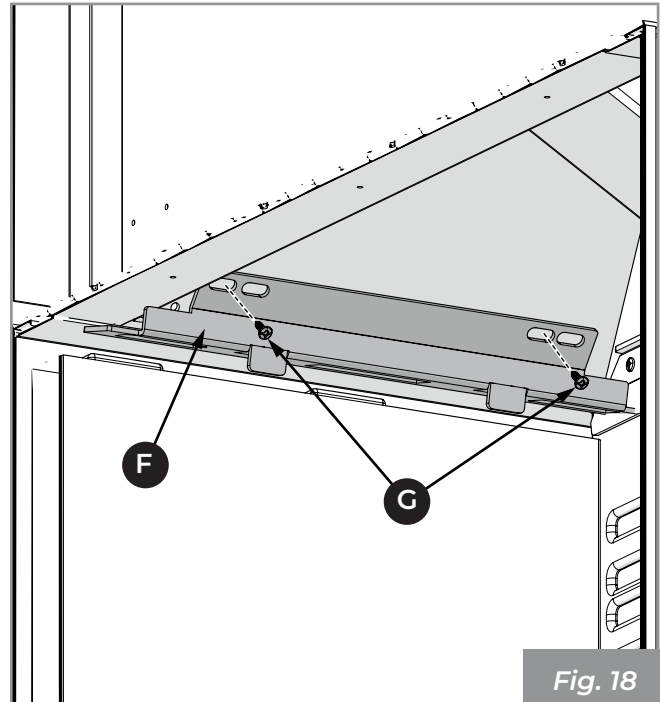

Fig. 18
- 4) Block the refractory with the bracket (F) being sure to insert the slots in the relevant projections and secure it with the appropriate screws (G) (Fig. 18).